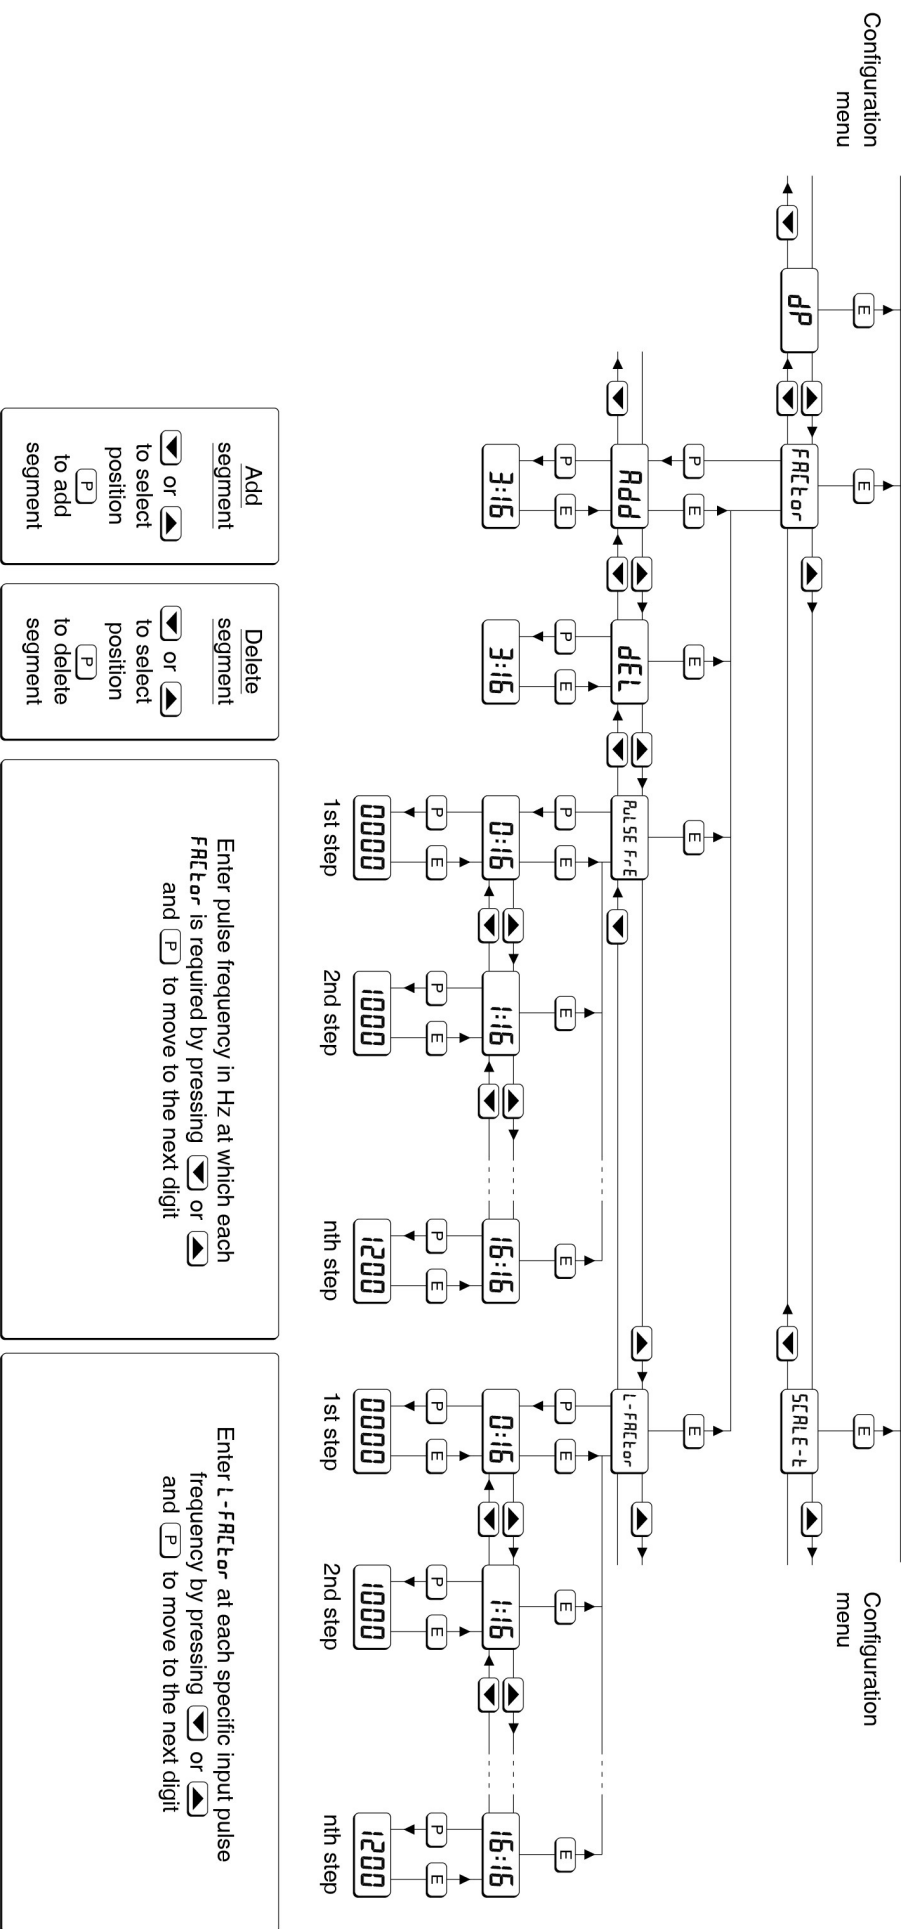

Fig 12 Lineariser configuration menu
Fig 12 shows how the Rate Totaliser configuration function **FRATOR** is extended when the lineariser is activated by selecting **LIN** in the **FUNCTION** menu.
This section summarises the lineariser configuration functions. When read in conjunction with Fig 12 it provides a quick aid for configuring the lineariser. If more detail is required, each section contains a reference to a full description of the function.
*PULSE Fr* is a sub-menu in the *FRCEor* function for entering the pulse input frequency at which each of the lineariser segments starts, see Fig 12.
*L-FRCEor* is a sub-menu in the *FRCEor* function for entering the flowmeter K-factor for each of the lineariser segments, see Fig 12.